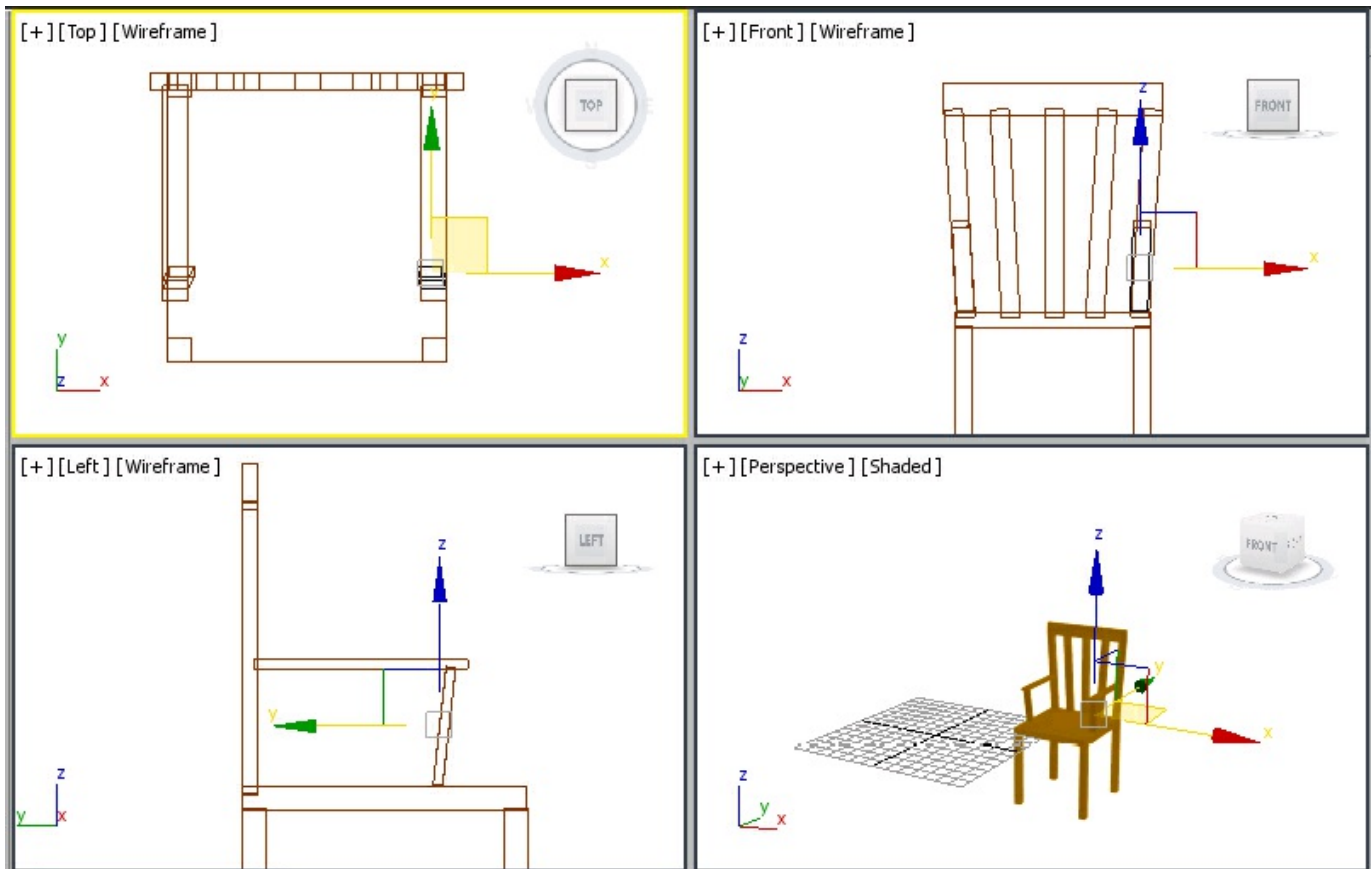

Figure 2-64 Alignment of boxes in the viewports
17. Create a copy of both the boxes created above and align them with *base*, as shown in Figure 2-64.